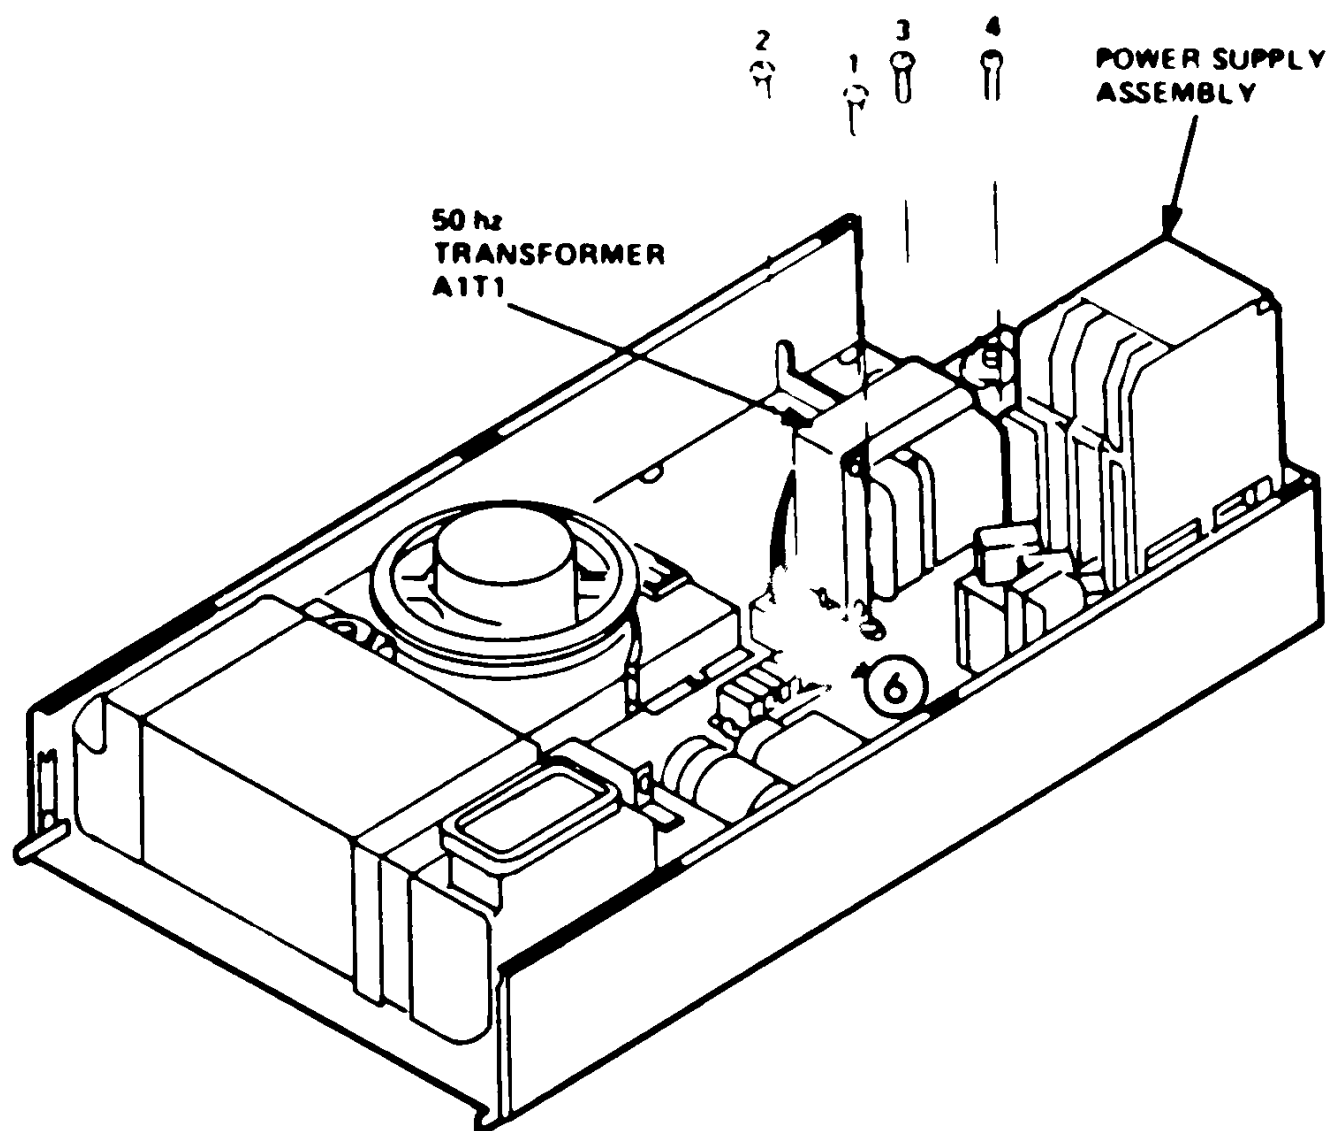

Fig. 4
8) Loosen the transformer mounting screws (#1, #2, and #3 in figure 4). Screw #4 is unaccessible at this time.
- 9) Rotate the transformer (using screw 4 as the pivot point) in the direction noted by arrow 6 in figure 4 until the required clearance is obtained. Since screw #4 is still tightened, the transformer may have to be lightly "tapped" to perform this step. If the transformer will not move, the 4th screw will have to be loosened. This screw is accessible by first removing the power supply assembly (figure 4).
- 10) After readjusting the transformer, retighten the transformer mounting screws (1,2,3,4 in figure 4).